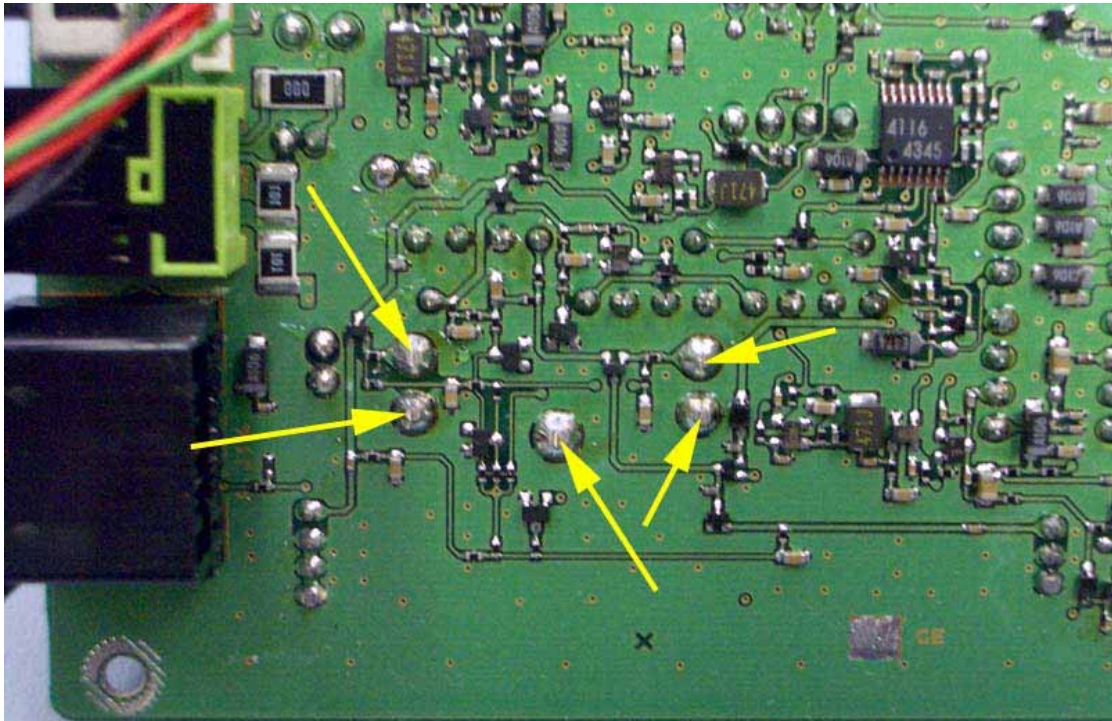

Figure 3
8. To remove the MuRata filter from the PCB, CAREFULLY remove the solder from the five (5) points shown in Fig. 3 and pull it off from the other side of the PCB. **WARNING: Don't use too much heat or damage the various SMT components located near these five points.**